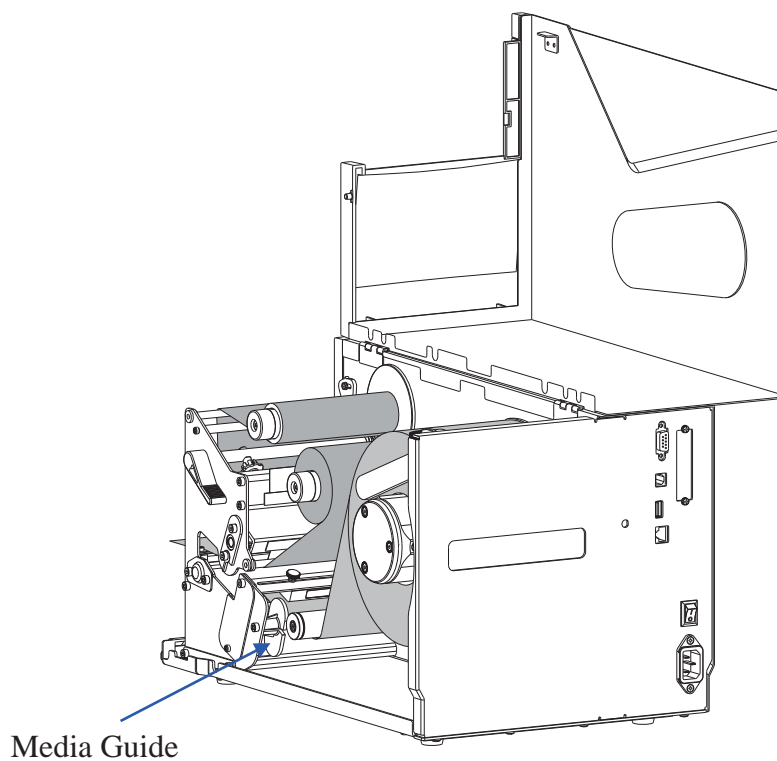

Figure 2-20 Slide the Media Guide
5. Slide the Media Guide to the edge of the media, making sure not to pinch or squeeze the media; keep the media flat and smooth. As shown in Figure 2-20.